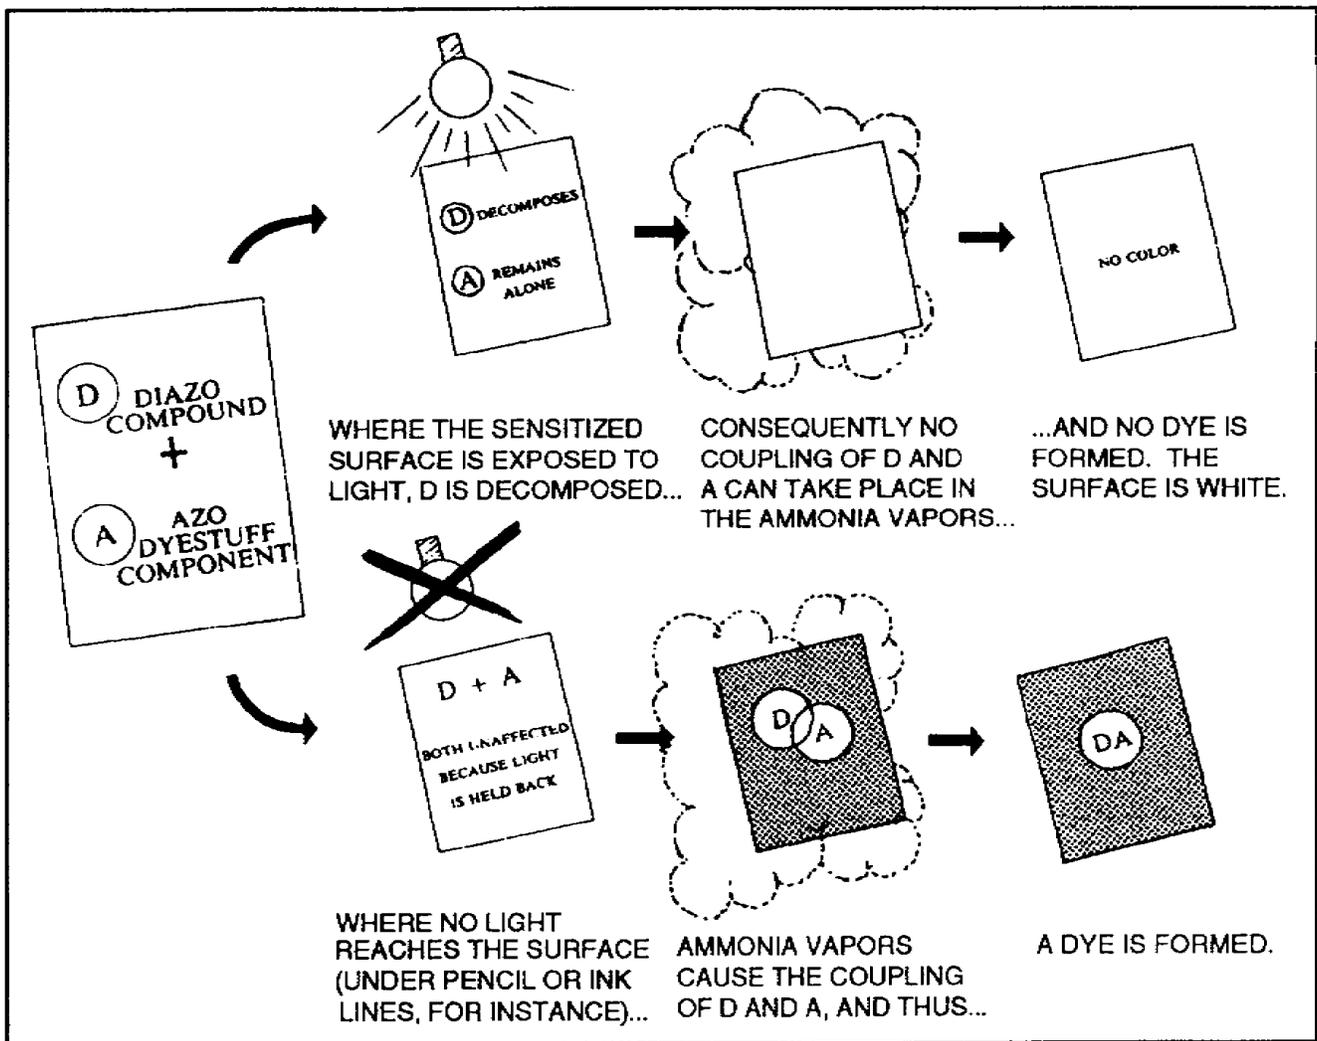

Figure 2-2. Simplified diazo process
(1) The diazo process. The diazo process is the most commonly used method for producing top quality viewgraphs for briefings and training materials. The term "diazo" refers to organic emulsion, which creates color through exposure to light, and the development of the image on film by using ammonia. The diazo process makes use of specially treated films and paper, and a diazo process printer to expose and develop these materials.
(2) How the diazo process works. Diazo film, or foils, and the paper are treated with a mixture of diazo salts and an azo dye. These salts are sensitive to light, especially ultraviolet light. When you expose the film to ultraviolet light, it chemically changes so that no image appears. If the coating is not exposed, and is developed in an alkaline medium, the diazo salts combine with the azo dyes to form a color image. Through the use of various dyes, you may create many colors on the acetate. Figure 2-2 illustrates how the chemical reaction of the diazo emulsion, when exposed to ultraviolet light and developed using ammonia, forms images on the film.
(3) Using the diazo process. There are three major operations involved in producing VGTs using the diazo process: